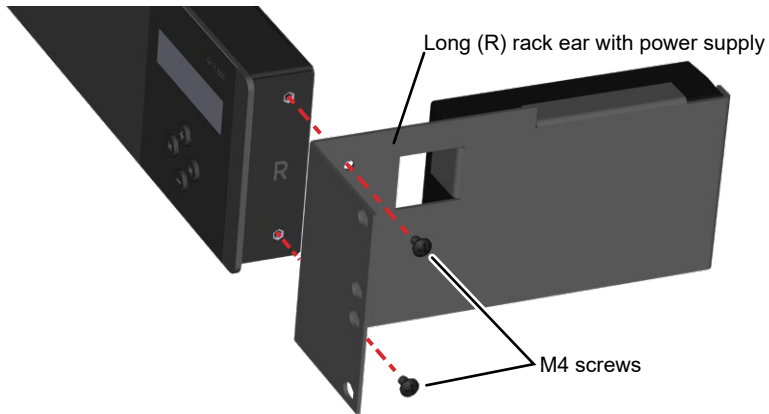

**Figure 5.** Attach controller assembly to the rack (hardware not provided)
5. Secure the Qt X controller to the rack via the rack ears as shown (Figure 5). Hardware to attach the unit to the rack is not included. Plug power cord into the rear of the power supply.